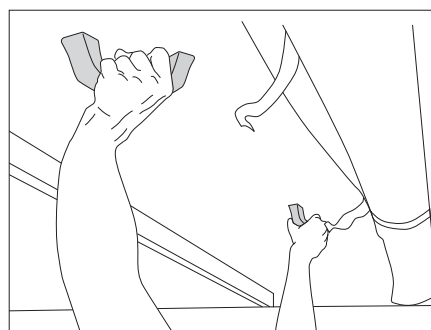

Fig. 19 Pushing up the pop-up roof
- Hold the grips with both hands and push the pop-up roof upwards (Fig. 19).